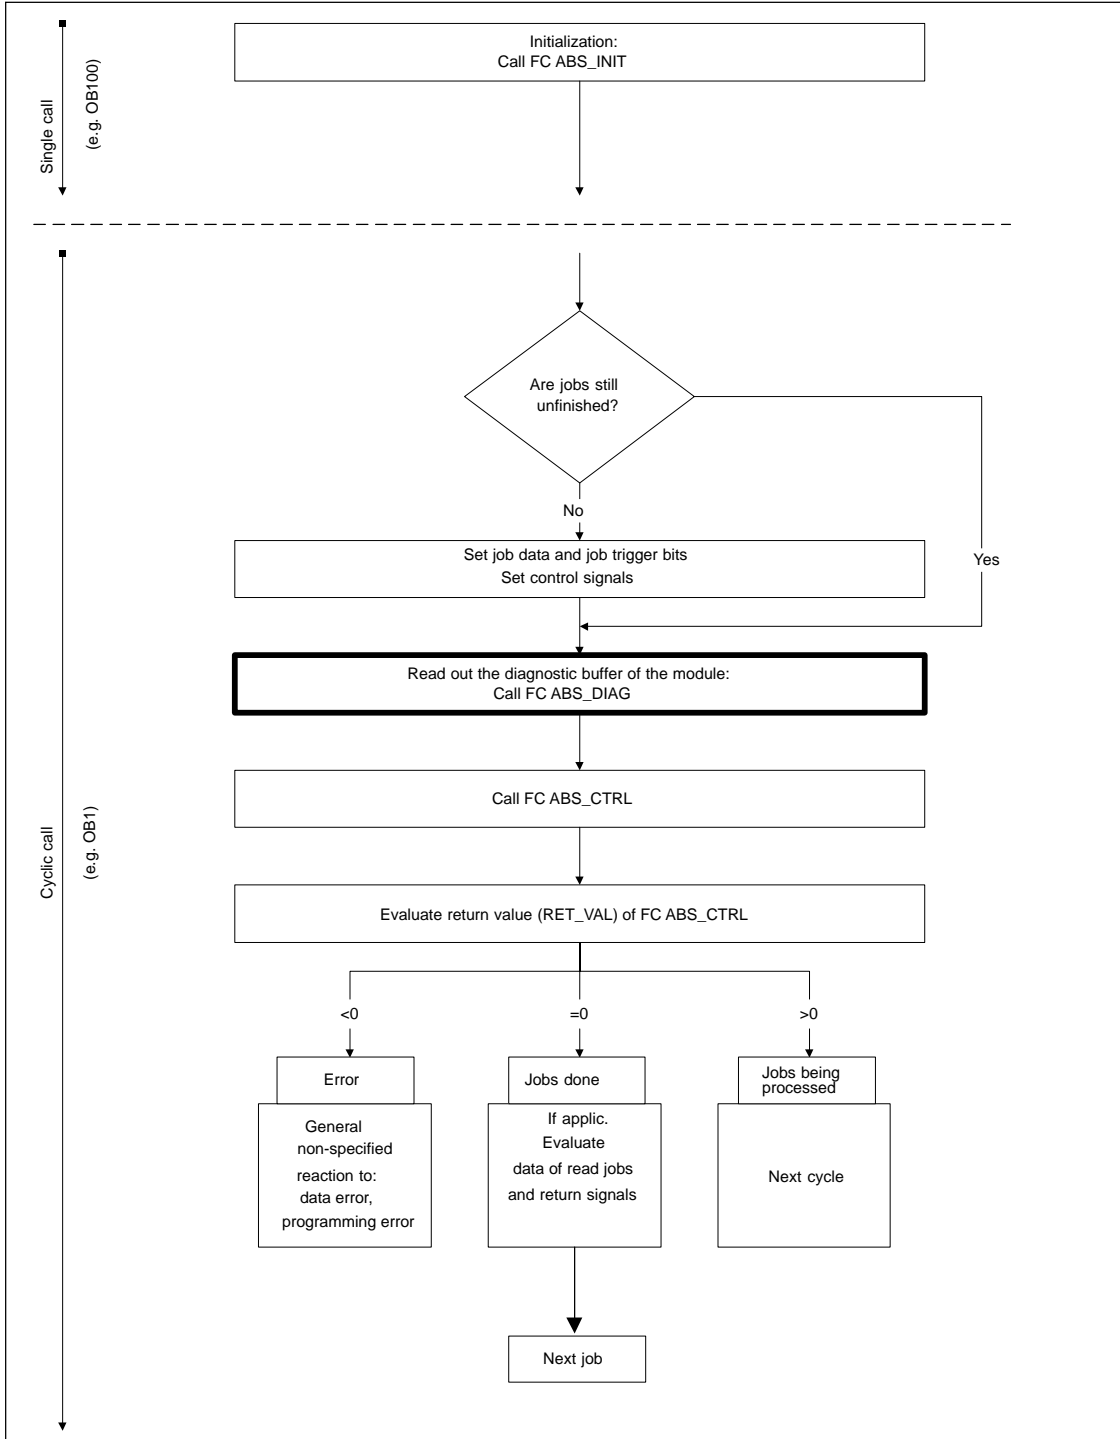

Figure 11-2 Program Structure with Diagnostic Display for an OP
- To display errors on an OP: Read out the diagnostic buffer of the module cyclically in your user program (see Figure 11-2). Evaluate the diagnostic DB on the OP. The meaning of the error class and error number is explained in the error list in Appendix C.5 (page C-14).
Figure 11-2 shows the structure of a user program as illustrated in Figure 6-2 with extra functions for reading out the diagnostic buffer for display on an OP. FC DIAG stores the diagnostic buffer in a DB that can be displayed by the OP.